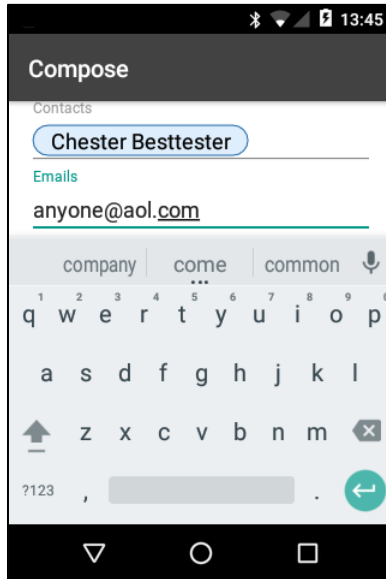

Figure 23: Compose and Enter Email Option
1. Tap the **Emails** field. A keyboard appears, as shown in **Figure 23**.